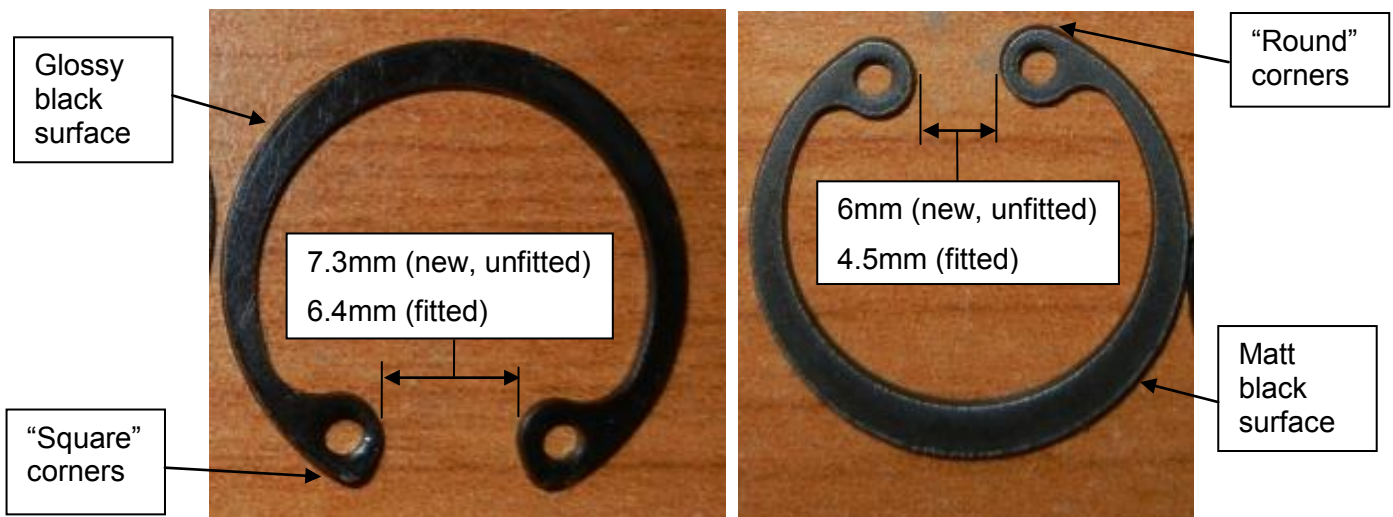

Figure 1 – Type A (Left) & Type B (Right) Circlips¹
- Subsequent testing has shown that these clips are unusually sensitive to installation technique compared to clips manufactured to DIN 472. In particular, the JIS clips have a larger gap between the clip “eyes” giving greater potential for installers to over-compress and damage the clips on installation. In Figure 1 the “Type A” clip meets JIS B 2804 while the “Type B” clip meets DIN 472.